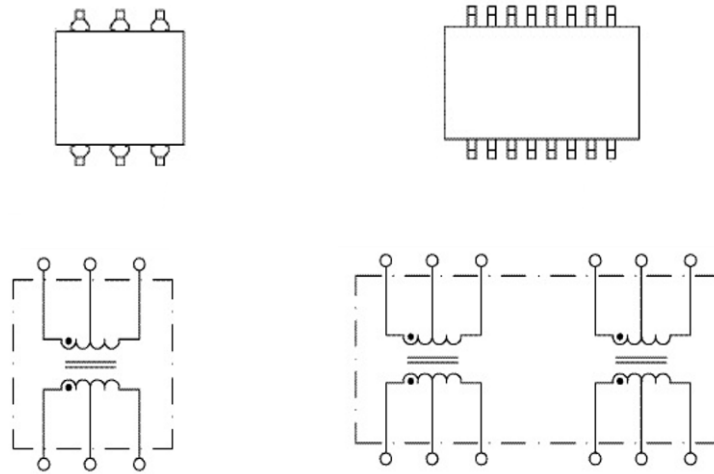

Figure 9. Single and Dual Core Transformer Diagrams (top view)
2. Pinout naming conventions can vary from vendor to vendor, but all winding diagrams should match those found in Figure 9.